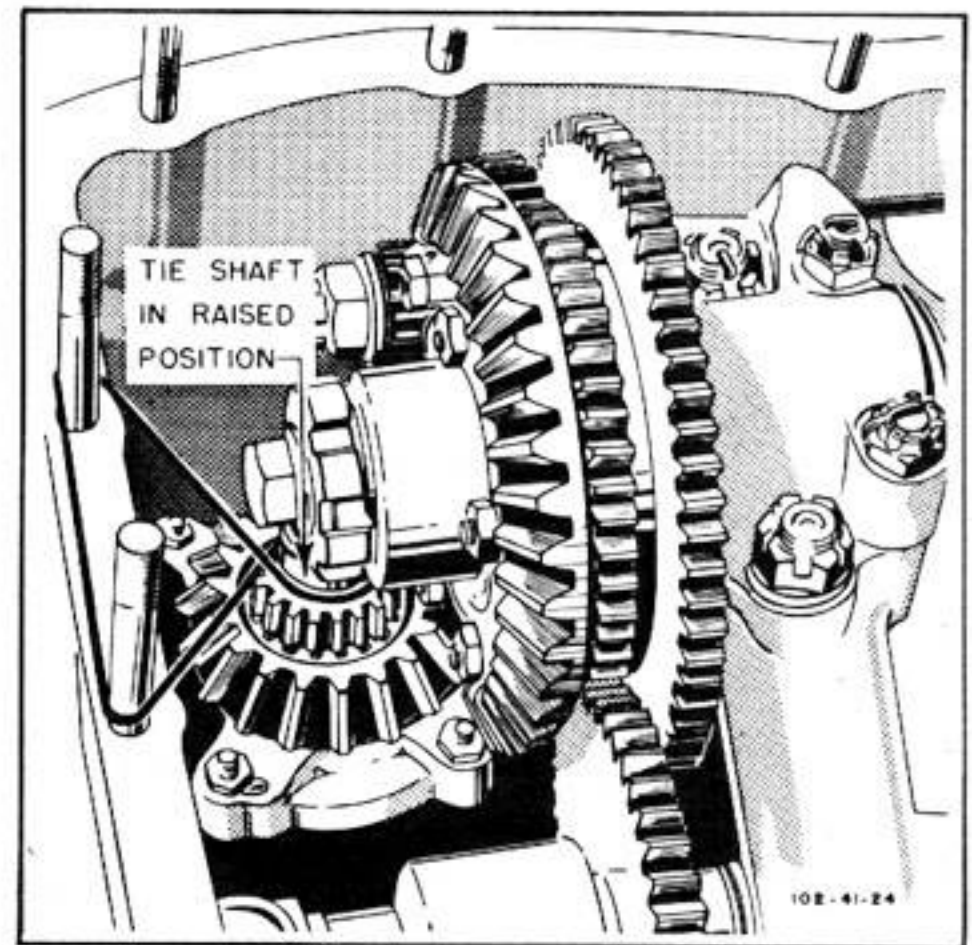

Figure 173—Disengagement of Camshaft
2. Lift inclined vernier camshaft drive shaft out of mesh with beveled pinion gear, and secure in raised position with a rubber band, safety wire, or a piece of cord as shown in figure 173 to permit the camshaft to be turned independently of the crankshaft.